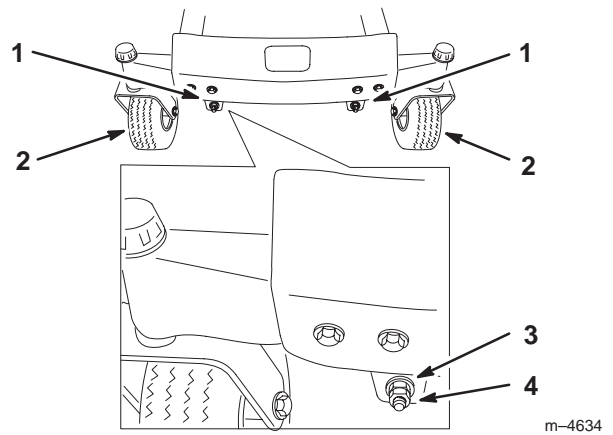

Figure 45
10. To adjust the front-to-rear blade slope, remove the locknuts and then rotate the adjustment nuts in the front of the mower (Fig. 45).
12. After adjusting both adjustment nuts evenly, check the front-to-rear slope again. Continue adjusting the nuts until the front blade tip is 1/16–5/16 inch (1.6–7.9 mm) lower than the rear blade tip (Fig. 45).
Note: After adjusting the adjustment nuts, make sure there is **no slack** in either support rod (Fig. 47). Tighten either one to remove the slack (Fig. 45).